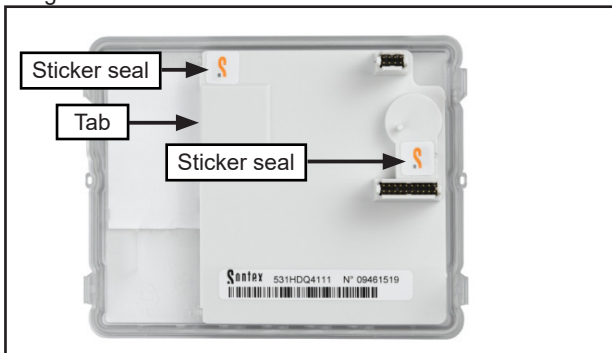

Figure 7-14: Calibration seals on rear of integrator front section
- Pull out the tab on the rear of the LCD display to start the clock. Refer to Figure 7-14.
- Integrator unit - two sticker seals are located on the inner (rear) face of the front section of the integrator unit. Refer to Figure 7-14. These calibration seals must not be tampered with or removed.